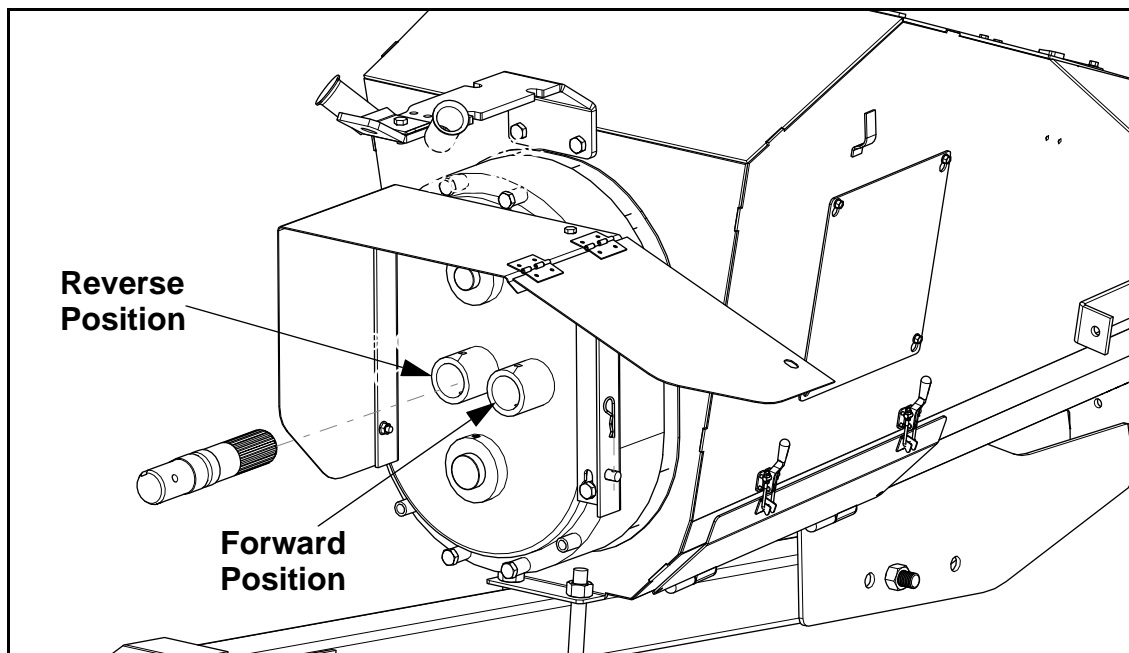

Figure 6.5 Forward and Reverse PTO Positions (1000 RPM PTO Reverser)
1. The stub spline on the PTO driveline must be inserted into the Forward spline coupler (see Figure 6.4 and Figure 6.5) and securely locked into place.
1. Insert the stub spline on the PTO driveline into the Reverse spline coupler (see Figure 6.4 and Figure 6.5), making certain it is securely locked into place.